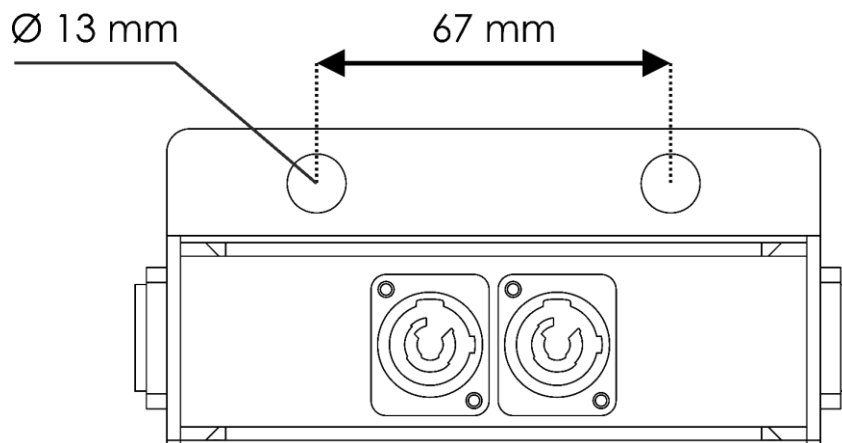

Fig. 04
- 01) Insert 2 screws into the **2 x mounting openings (02)** and tighten them to mount the device on a structure. See Fig. 04.